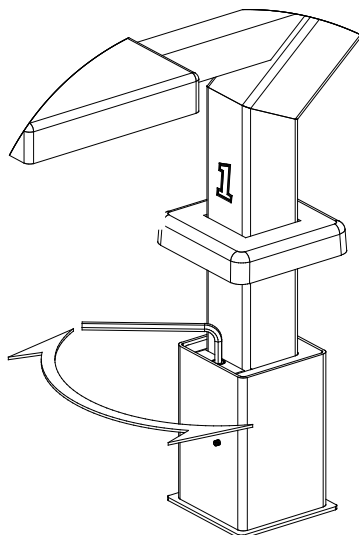

FIGURE 4
1. Loosen bolt using a ¼" ALLEN wrench, turning wrench in a counter-clockwise direction as seen from looking down. See **FIGURE 4**.
6. To remove, lift escutcheon, insert ALLEN wrench into anchor bolt and turn counter-clockwise two (2) full turns. Lift and remove post. DO NOT continue to loosen anchor bolt or remove anchor bolt for any reason.